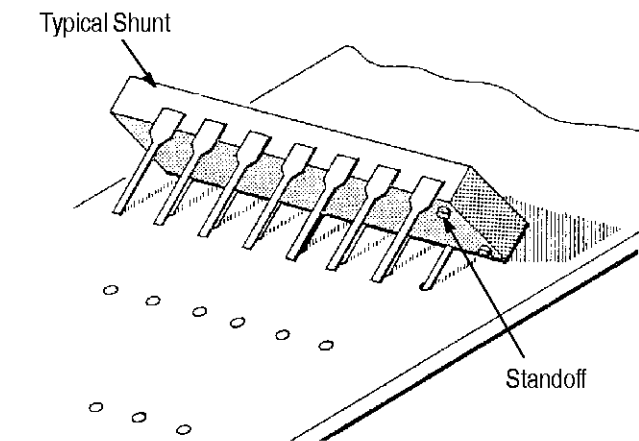

Figure 3
5.1. Standard Shunt (see Figure 3)